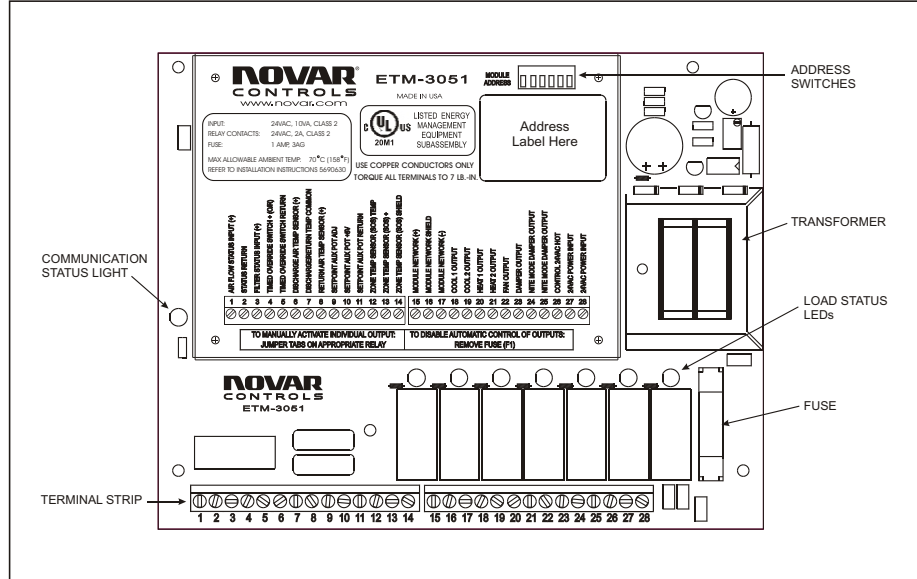

Figure 1. ETM-3051
The ETM-3051 (Figure 1) is a panel-mount module that can be used to control the following loads:
- ETM Communication status light-emitting diode (LED) located on the left side of the module (see Figure 1)
- ETM load status LEDs (see Figure 1)
- ETM address switches (see Figure 1)